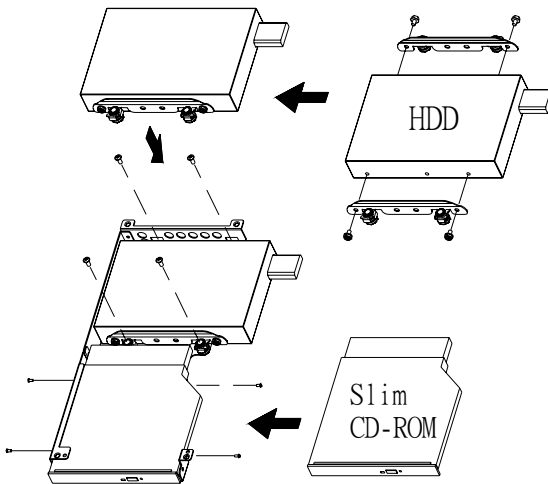

Figure 2-4 Install a slim CD-ROM and a HDD
The IPC-603MB accepts one slim type CD-ROM/-RW and one internal SATA/ATA HDD. To install the disk drives, refer to Figures 2-4 and 2-5 and proceed as follows:
4. Refer to Figure 2-4 and mount a slim-type CD-ROM/-RW and a 3.5" HDD with screws.